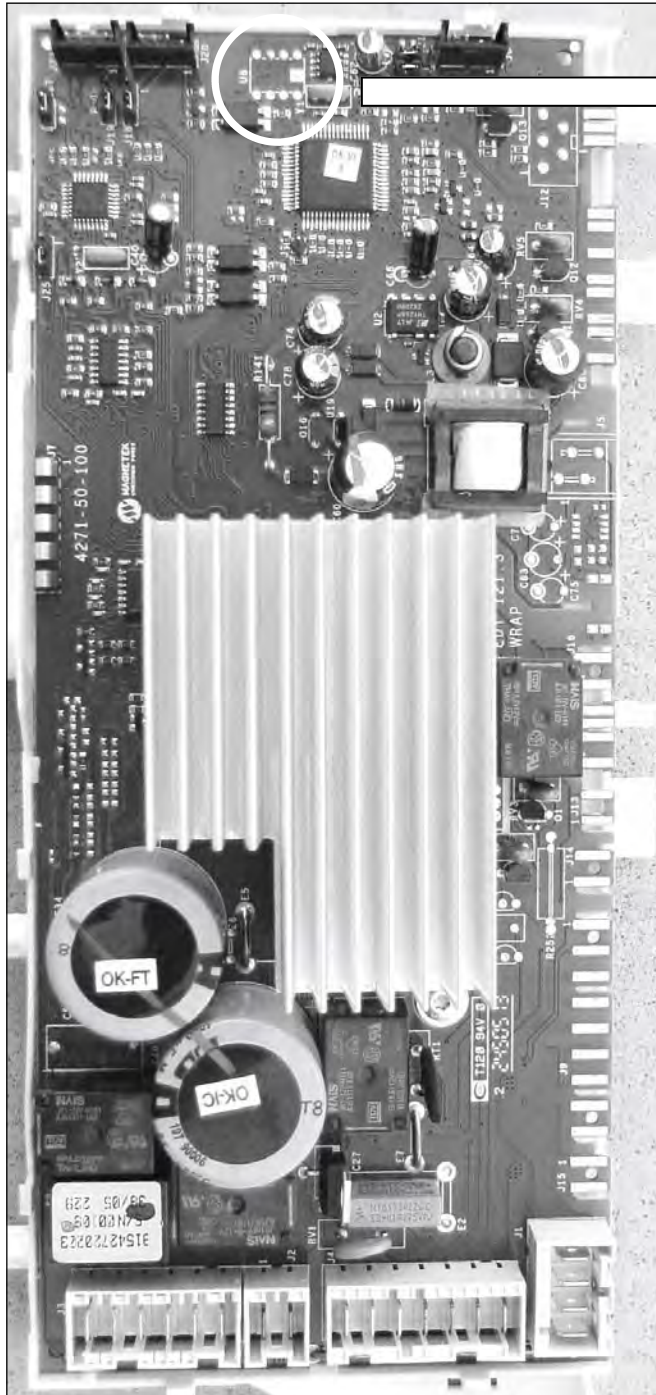
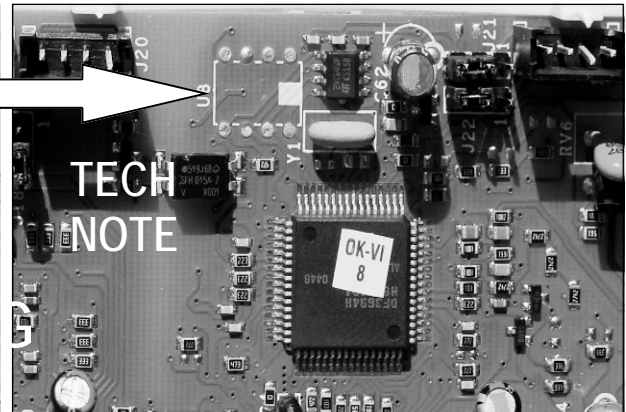
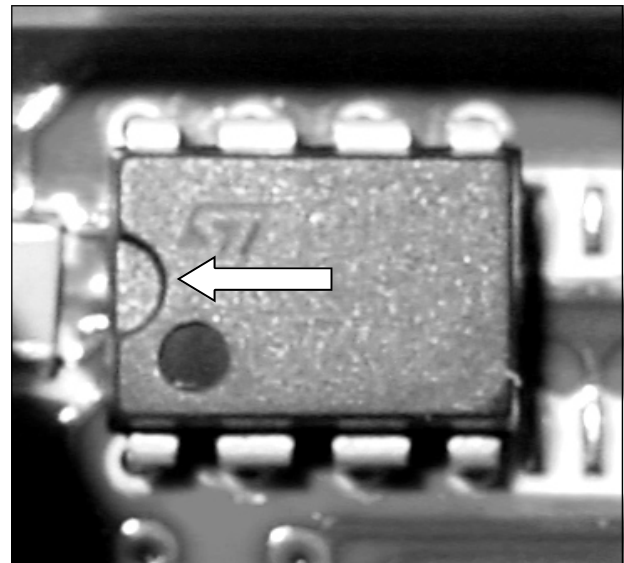

Fig. 11-1
Fig. 11-2
Fig. 11-3
- The EEPROM Chip will insert into the Control Board (Fig. 11-1 & Fig. 11-2) at the eight pin receptacle. When installing the new EEPROM Chip make sure that both the Chip Cut Out and the Chip Receptacle Cut Out are aligned in the same direction (Fig. 11-3).